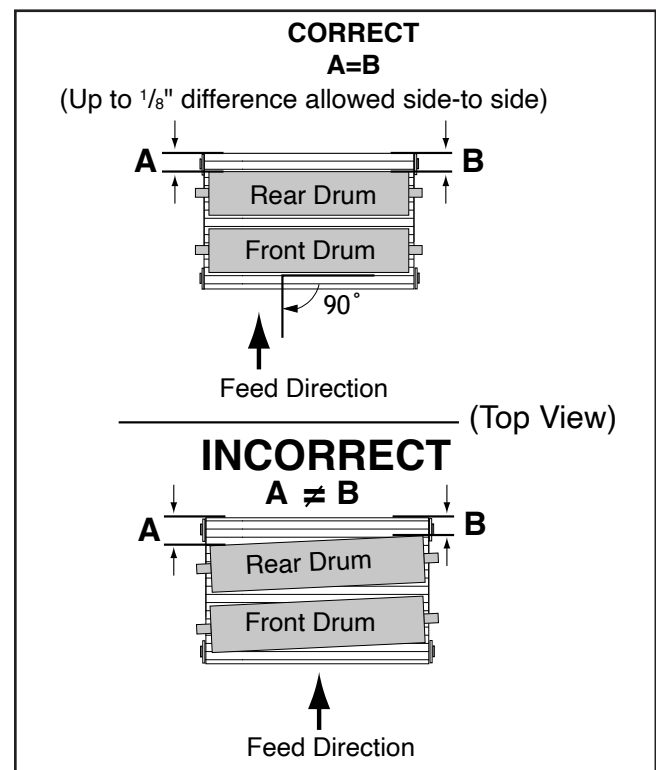
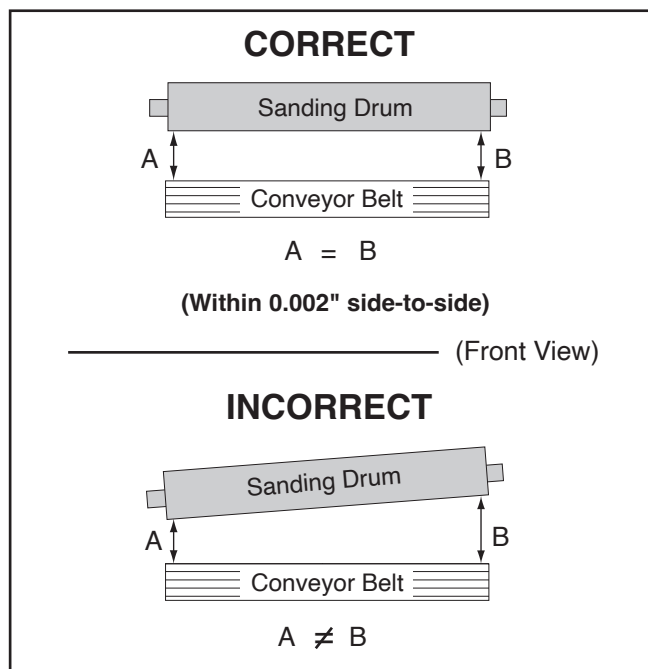
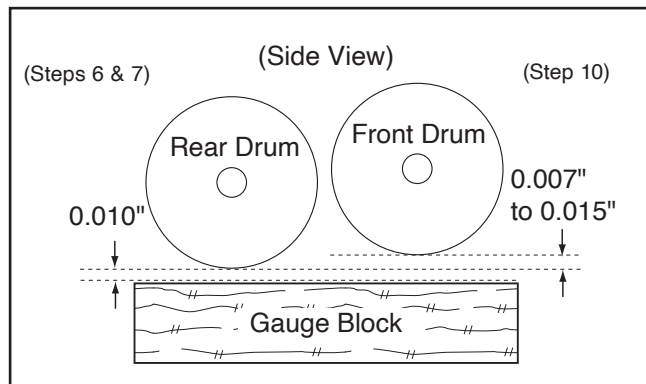

Figure 58. Drum perpendicular to feed direction.
Figure 64. Drum parallel to conveyor belt.
Figure 67. Rear drum set below front drum.
There are three adjustments for the sanding drums: 1) the drums must be perpendicular to the feed direction (parallel with the conveyor roller, (see **Figure 58**); 2) the drums must be parallel to the top of the conveyor belt (see **Figure 64** on **Page 51**); 3) the rear drum must be set approximately 0.007" to 0.015" below the front drum (see **Figure 67** on **Page 53**).
The tolerances for having the drum perpendicular to the feed direction allow up to $\frac{1}{8}$ " difference from one side to the other (see **Figure 58** on **Page 48**). If the drums are not perpendicular to the feed direction, they may put a side load on the conveyor belt during operation, forcing the conveyor to track off to the side and possibly causing damage.
Keep in mind that having the drums parallel to the top of the conveyor belt (see **Figure 64**) is critical to the sanding operation. Take care to adjust the drums parallel to the conveyor surface within 0.002" from one side to the other.
- On one side of rear drum, rotate micro-adjustment knob until a 0.010" feeler gauge fits between drum and gauge block (see **Figure 67**).
Note: The 0.017"–0.025" setting is a recommended range and includes the 0.010" setting on the rear drum and the additional 0.007" to 0.015" height from **Step 6** (see **Figure 67**). Some trial-and-error may be needed to find the optimal setting based upon the sandpaper grit size you use (ie, coarse grit = smaller number; fine grit = larger number).